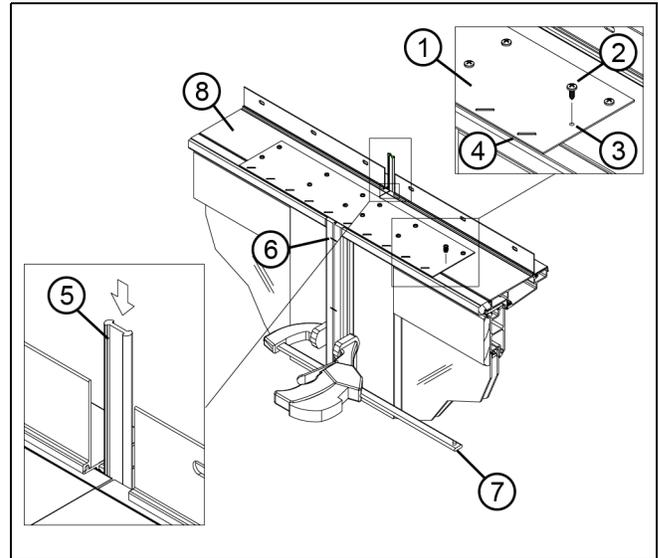
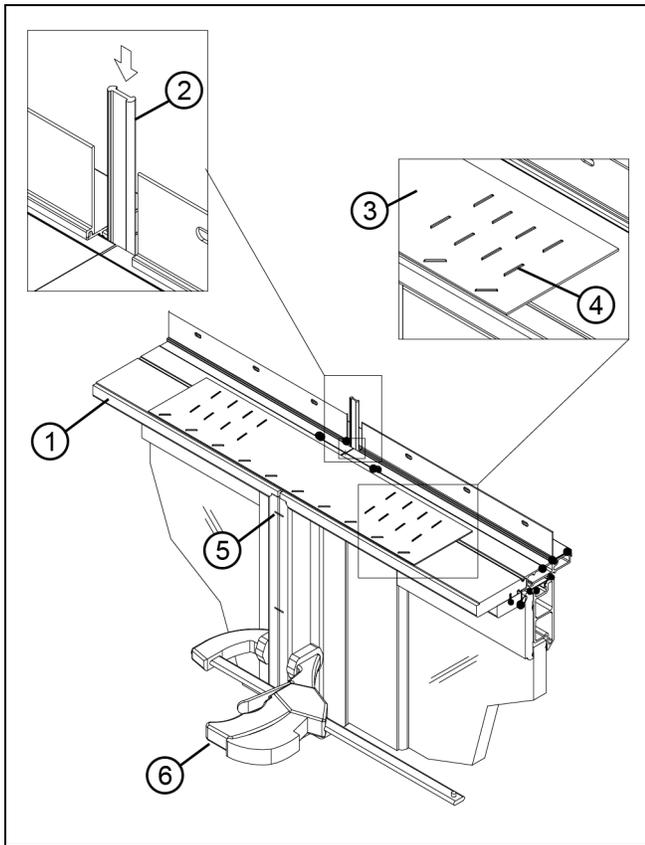

Figure 9 Inswing to Inswing mulling at head jamb
Figure 10 Outswing to Outswing mulling at head jamb
4. Drive the mull pin in the full length of the jamb (use a hammer if necessary) ensuring that the mull pin is recessed 1/4" (6) to allow for sealant application later.
5. Check to make sure that units are flush and square with each other. Apply a third clamp to interior if necessary and fasten units together at interior jamb liners with 1/2" x 1/2" 16 gauge staples spaced every 5" (127).
6. Center mulling tin over mullion at head jamb and flush with recess in wood head jamb liner. Secure tin to head jamb with 1/2" x 1/2" 16 gauge staples as shown in illustration 3. On Inswing units, drill pilot holes through mulling tin and first layer of Ultrex with a 7/64" (3) drill bit at locations shown in illustration 8. Fasten mulling tin to head jamb with #8 x 3/8" Phillips pan head screws provided. See Figure 9 and Figure 10.